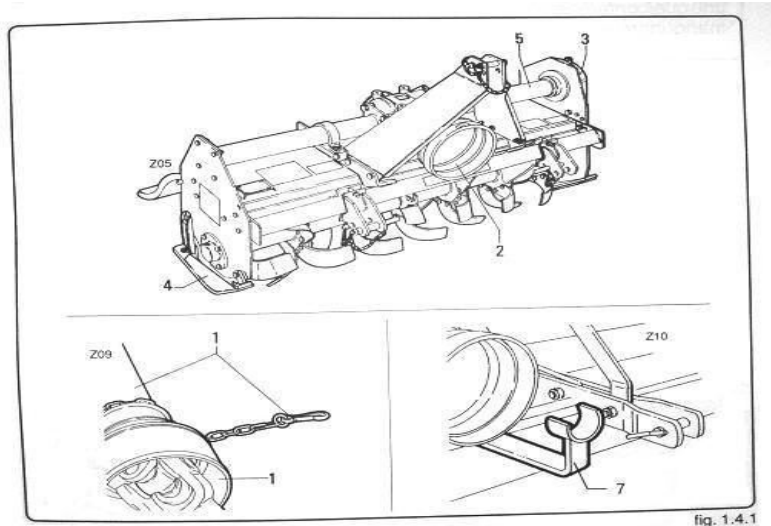

fig. 1.4.1
- 9 - Rear hood (fig. 1.4.1).
- Key to the safety devices (fig. 1.4.1)